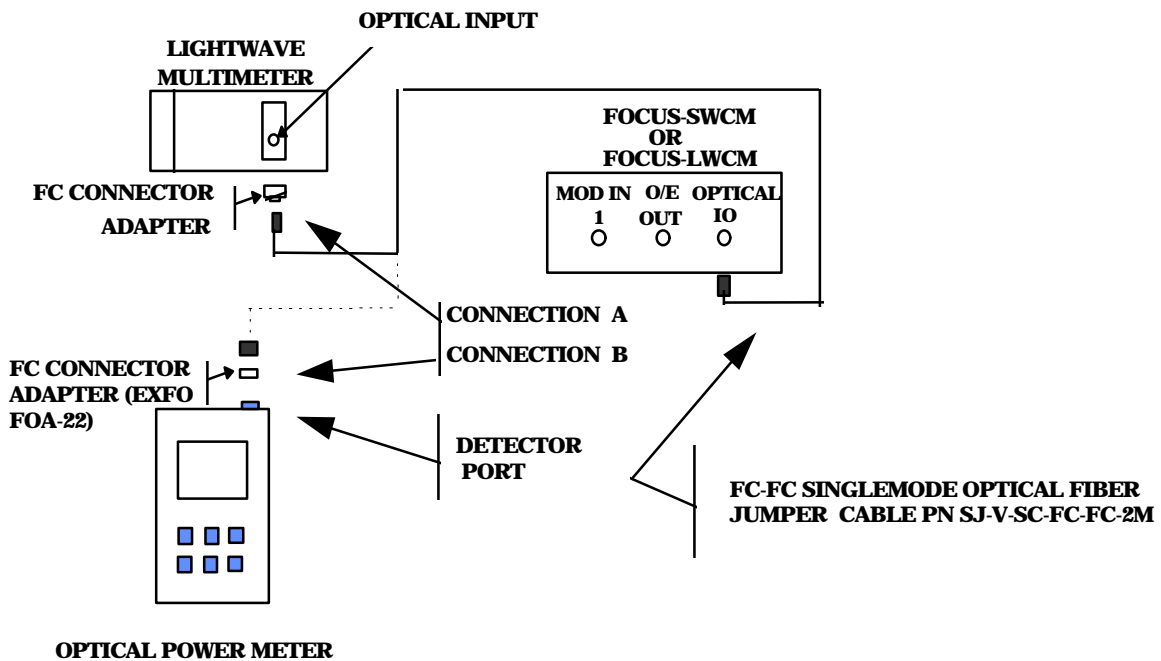

Figure 1. Optical Power Meter test setup.
- (1) Connect equipment as shown in figure 1, CONNECTION A. Connect optical fiber jumper cable from FOCUS-SWCM OPTICAL I-O to FC CONNECTOR ADAPTER attached to OPTICAL INPUT of LIGHTWAVE MULTIMETER (fig. 1).
- (4) Remove cover from OPTICAL POWER METER DETECTOR PORT (fig. 1).
- (5) Carefully remove optical fiber jumper cable connector from lightwave multimeter and connect to OPTICAL POWER METER DETECTOR PORT, CONNECTION B (fig. 1).
- (6) Press OPM λ **select** pushbutton as necessary to set wavelength to 850 nm.
- (7) Press OPM **dBm/W** pushbutton if necessary to measure dBm.
- (8) Optical power meter will indicate between -09.65 and -10.35 dBm; if not, perform **b** below.
- (9) Press and hold **ref** pushbutton for **00.00** indication on display.
- (10) Carefully remove optical fiber jumper cable connector from OPTICAL POWER METER DETECTOR PORT (fig. 1) and connect to LIGHTWAVE MULTIMETER (fig. 1).
- (11) Adjust FOCUS-SWCM **VAR ATTN 1** knob for **-15.00 dBm** indication on lightwave multimeter display.
- (12) Carefully remove optical fiber jumper cable connector from LIGHTWAVE MULTIMETER (fig. 1) and connect to OPTICAL POWER METER DETECTOR PORT, CONNECTION B (fig. 1).
- (13) OPM will indicate between -04.50 and -05.50 dB.
- (14) Press **dBm/W** pushbutton to return OPM to measure dBm.
- (15) Repeat technique of (1) through (8) above for settings and indications in table 4. OPM will indicate as specified; if not, perform **b** below.
- (16)